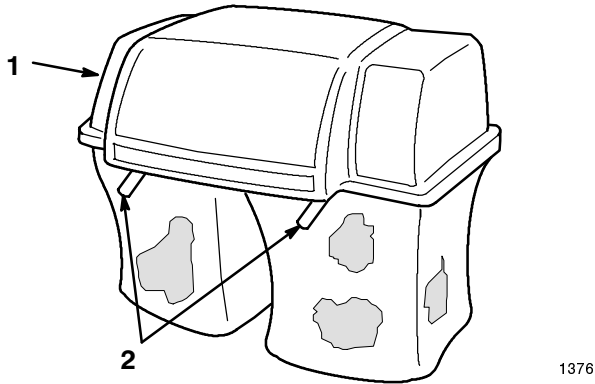

Figure 20
6. Lower the bagger top onto the bags. Then push down on both bag retainer handles until they lock on the bag frame (Fig. 20).